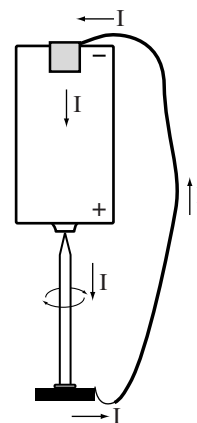
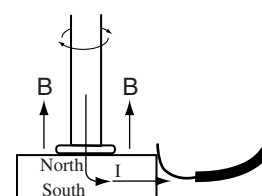

Figure 3.
Figure 4.
4. Keeping the battery and nail vertical, lightly touch the exposed metal wire to the side of the magnet (see Figure 3). The magnet and nail should begin to spin. If the magnet does not spin right away, it may need a small initial twist to “activate” it. *Note:* Lightly touching the magnet with the side of the metal wire instead of the pointed tip provides more surface contact and a smoother surface which limits the amount of friction that may slow down the motor.
For this simple (homopolar) motor, direct electric current (DC) travels through and over the surface of the permanent magnet when the wire makes contact with the side of the magnet (Figure 3). Electric current travels horizontally through the magnet and the magnetic field of the magnet is vertical. The interaction between the electric current (I) and the magnetic field (B) yields a force that is perpendicular to both the electric current and the magnetic field. The direction of the force can be determined by applying the "Right-Hand Rule." The "Right-Hand Rule" states that when the fingers on the right hand point in the direction of the current, and the palm of the right hand points in the direction of the magnetic field, then the thumb on the right hand will be pointing in the direction of the force. Therefore, the force produced by the interaction between the magnetic field and the electric current represented in Figure 4 is horizontal and perpendicular to the plane of the page. Since this horizontal force is off-center from the axis of rotation of the magnet–nail combination, a *torque* is produced. A torque is a "rotational" force that is the result of a force acting at some distance away from an axis of rotation. The force produced by the interacting electric current and magnetic field "pushes" on one side of the magnet, near the edge, and causes the magnet and nail to spin in a clockwise direction (when observed from above). The sharp point of the nail and the smooth surface of the battery terminal minimize frictional forces that might otherwise prevent the nail from spinning.